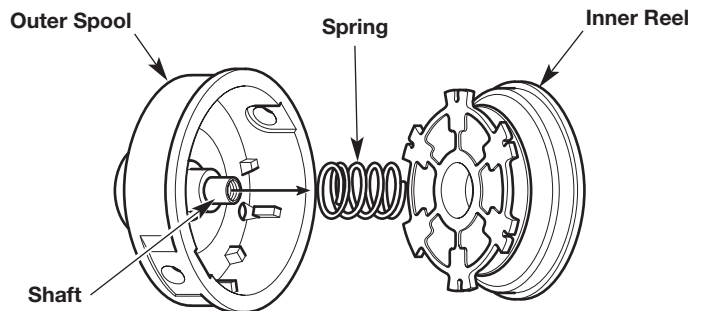

Fig. 17
3. Remove the inner reel from the outer spool (Fig. 17).
4. Remove the spring from the inner reel (Fig. 17).